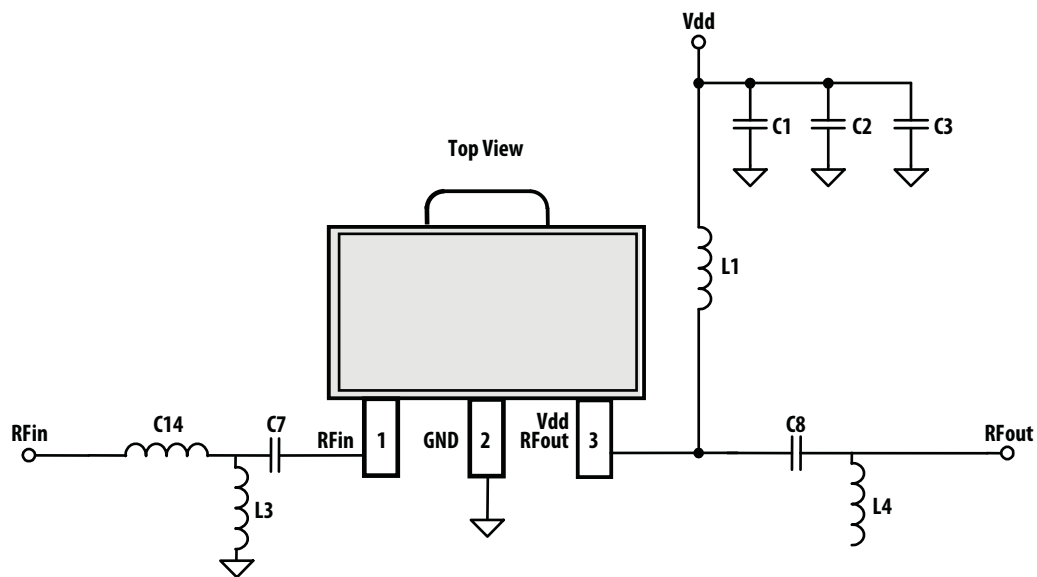

Figure 30. Application Schematic
1. Measurements obtained using demo board described in Figure 30 and 31. 3.5GHz data was taken with 3GHz - 4GHz Application Test Circuit and 5GHz data with 1.5GHz - 2.6GHz Application Test Circuit respectively.
$T_A = 25^\circ\text{C}$, $V_{dd} = 5\text{V}$, Input Signal=CW. Application Test Circuit is shown in Figure 30 and Table 2.
$T_A = 25^\circ\text{C}$, $V_{DD} = 5\text{V}$, Input Signal=CW. Application Test Circuit is shown in Figure 30 and Table 2.
$T_A = 25^\circ\text{C}$, $V_{DD} = 5\text{V}$, Input Signal=CW. Application Test Circuit is shown in Figure 30 and Table 3.
$T_A = 25^\circ\text{C}$, $V_{dd} = 5\text{V}$, Input Signal=CW. Application Test Circuit is shown in Figure 30 and Table 3.